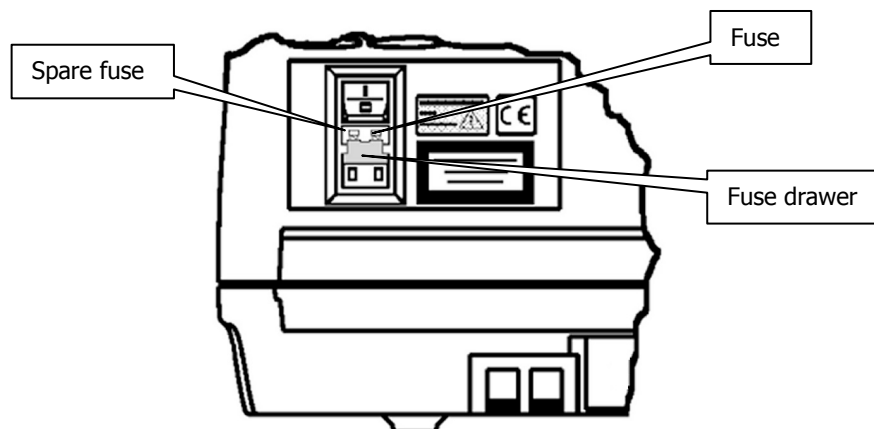

Figure 33 Fuse fitted; drawer open
3. Fit the new fuse into the slot (Figure 33).